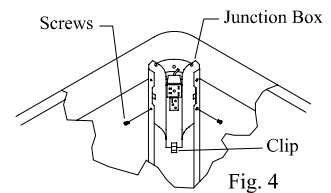

Fig. 4
- **Remove junction box.** The electrical junction box is located in the upper inside corner of the cooler cabinet. Remove the two screws and remove the junction box (Fig. 4). Slide receptacles into slots in junction box.